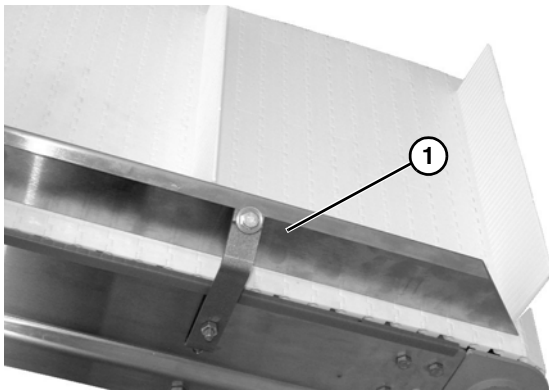

Figure 31
1. Remove guides (**Figure 31**, item 1) when required.